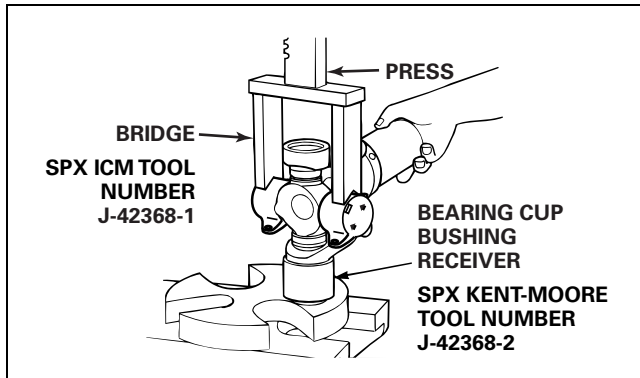
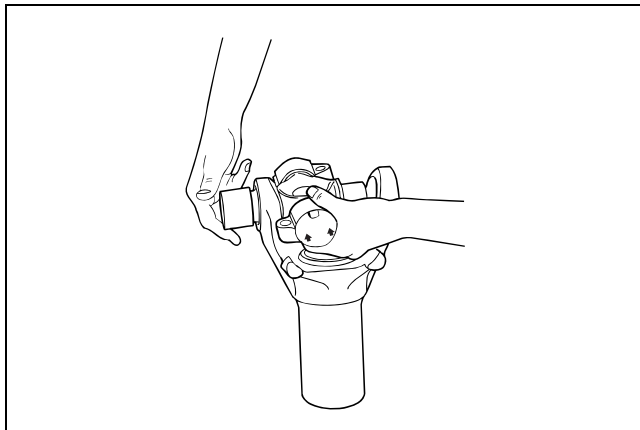

Figure 4.6
Figure 4.7
- Use a press bridge (SPX ICM Kent-Moore tool number J-42368-1) and bearing cup bushing receiver (SPX Kent-Moore tool number J-42368-2). Figure 4.6. Refer to the Service Notes page on the front inside cover of this manual for information to obtain these tools.
2. Press DOWN until the first round bushing loosens. Figure 4.6. Remove the round bushing. Figure 4.7.